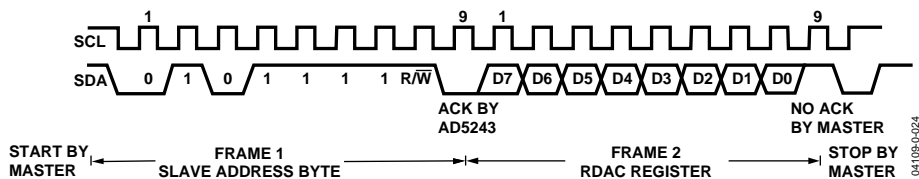
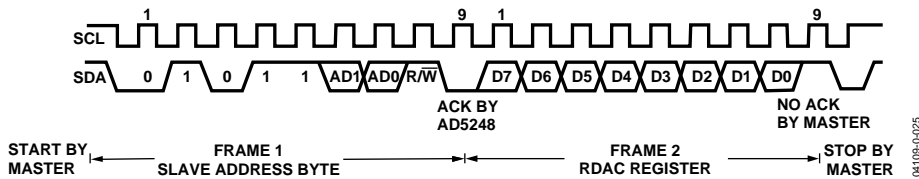

Figure 47. Reading Data from a Previously Selected RDAC Register in Write Mode—AD5243
Figure 48. Reading Data from a Previously Selected RDAC Register in Write Mode—AD5248
3. In the read mode, the data byte follows immediately after the acknowledgment of the slave address byte. Data is transmitted over the serial bus in sequences of nine clock pulses (a slight difference with the write mode, where there are eight data bits followed by an acknowledge bit). Similarly, the transitions on the SDA line must occur during the low period of SCL and remain stable during the high period of SCL (see Figure 47 and Figure 48).
Note that the channel of interest is the one that is previously selected in write mode. If users need to read the RDAC values of both channels, they need to program the first channel in write mode and then change to read mode to read the first channel value. After that, the user must return the device to write mode with the second channel selected and read the second channel value in read mode. It is not necessary for users to issue the Frame 3 data byte in write mode for subsequent readback operation. Users should refer to Figure 47 and Figure 48 for the programming format.
4. After all data bits have been read or written, a stop condition is established by the master. A stop condition is defined as a low-to-high transition on the SDA line while SCL is high. In write mode, the master pulls the SDA line high during the 10th clock pulse to establish a stop condition (see Figure 45 and Figure 46). In read mode, the master issues a no acknowledge for the ninth clock pulse (that is, the SDA line remains high). The master then brings the SDA line low before the 10th clock pulse, which goes high to establish a stop condition (see Figure 47 and Figure 48).